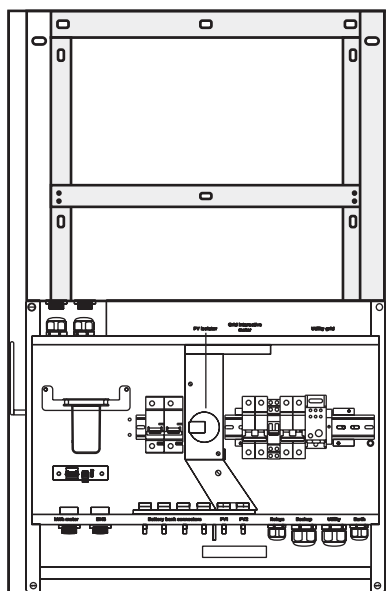

Figure 6: Mounting the BoS
After attaching the mounting plate to the wall, lift the BoS and place it on the two mounting hooks. Ensure that both hooks are engaged before releasing the BoS as shown in Figure 6.
- After placing the BoS on the mounting plate, lift the inverter and place it on the BoS in a way that the male and female connectors are engaged and locked as shown in Figure 6.